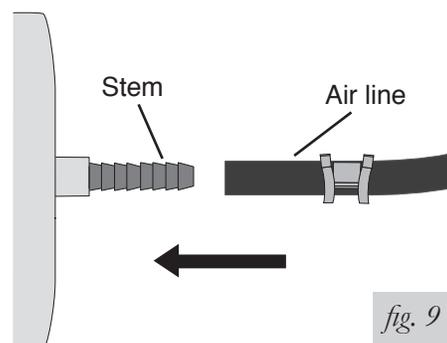

fig. 9
6. Push the air line onto the stem, covering all the barbs (fig. 9). With the pliers, slide the air line clamp upward until it fully covers the barbed section.
5. Push the air line onto the stem, covering all the barbed section (see fig. 9). With pliers slide the air line clamp forward until it fully covers the barbed section.